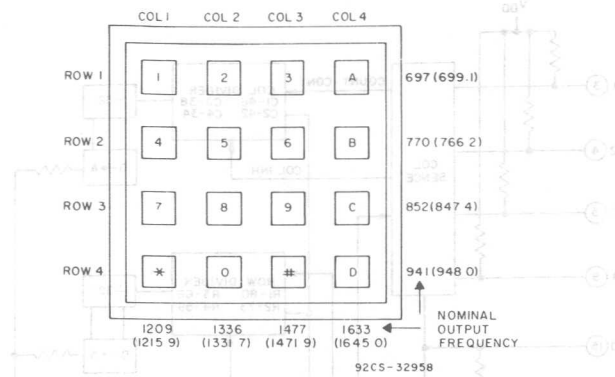

Fig. 1 - Bell and nominal output frequencies (in parenthesis) for 3.579545-MHz crystal.
- Refer to Figure 1. for standard DTMF frequencies.